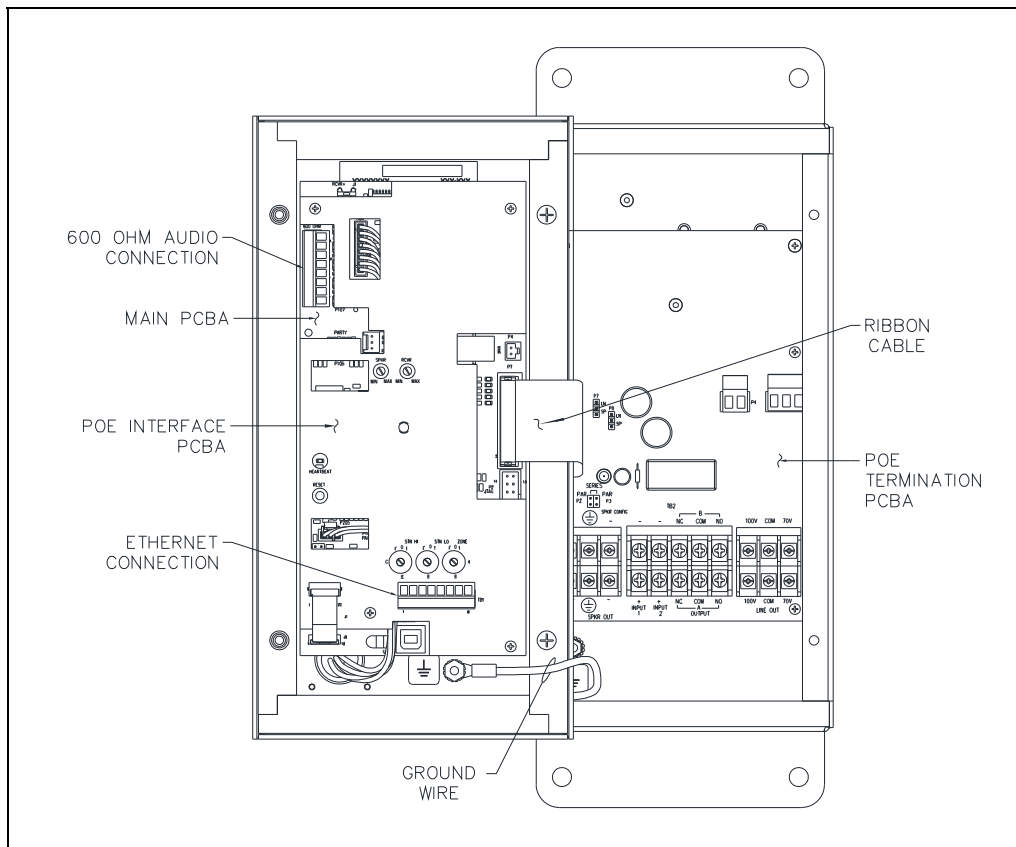

Figure 9. SP2 PoE Station—Interior View
3. Mount the front panel to the rear enclosure using two of the screws just removed (see Figure 9).